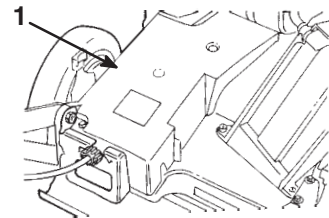

Figure 22
3. Remove the bolts that secure the belt cover to the lawn mower housing (Fig. 22).